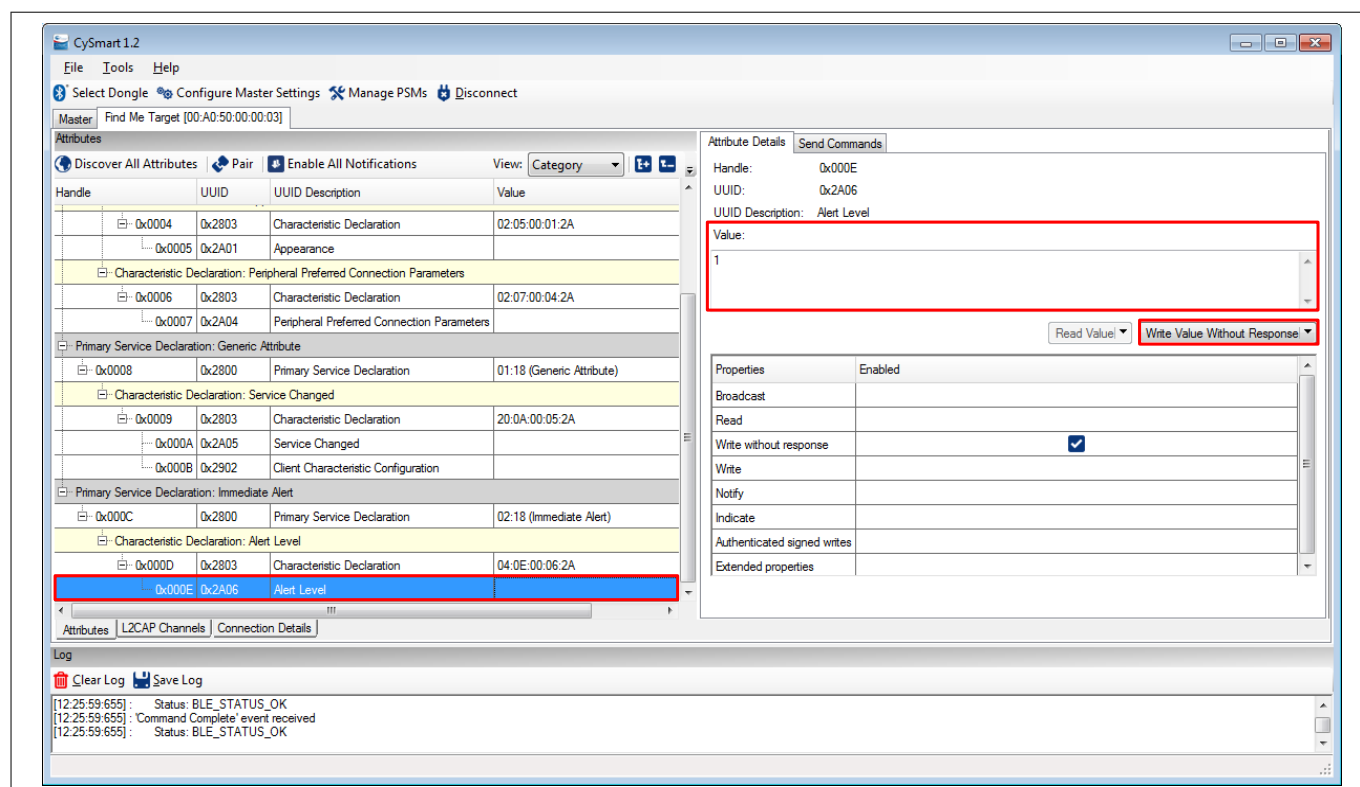

Figure 60 Testing with CySmart Host Emulation Tool
- Scroll down the **Attributes** window and locate the **Immediate Alert** Service fields. Write a value of 0, 1, or 2 to the **Alert Level** characteristic under the **Immediate Alert** Service, as Figure 60 shows. Observe the state of the LED on your device change per your Alert level characteristic configuration